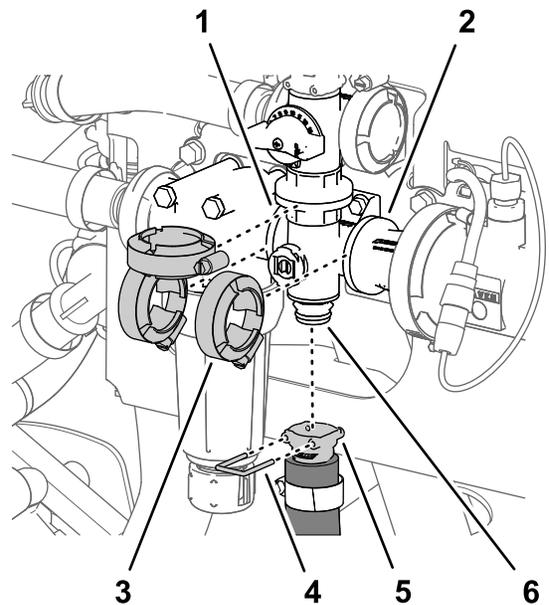

Figure 118
1. Remove the quick connect pin that secures the quick-connect coupler for the agitation hose to the manifold for the agitation valve (Figure 118).
2. Remove the 3 flange clamps that secure the agitation-valve manifold to the flanges of the pressure-filter head and the coupling adapter (Figure 118).